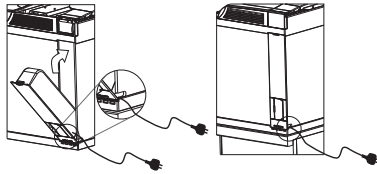

Figure 31: Inserting the power center
9. Hold the power center with the cable at the bottom. Insert the power center power cord into the cable niche at the bottom of the back wall. Insert the power center, into the power center housing. Use the lip at the bottom to position the box properly. (fig 31) and push until the power center snaps into position at the top.